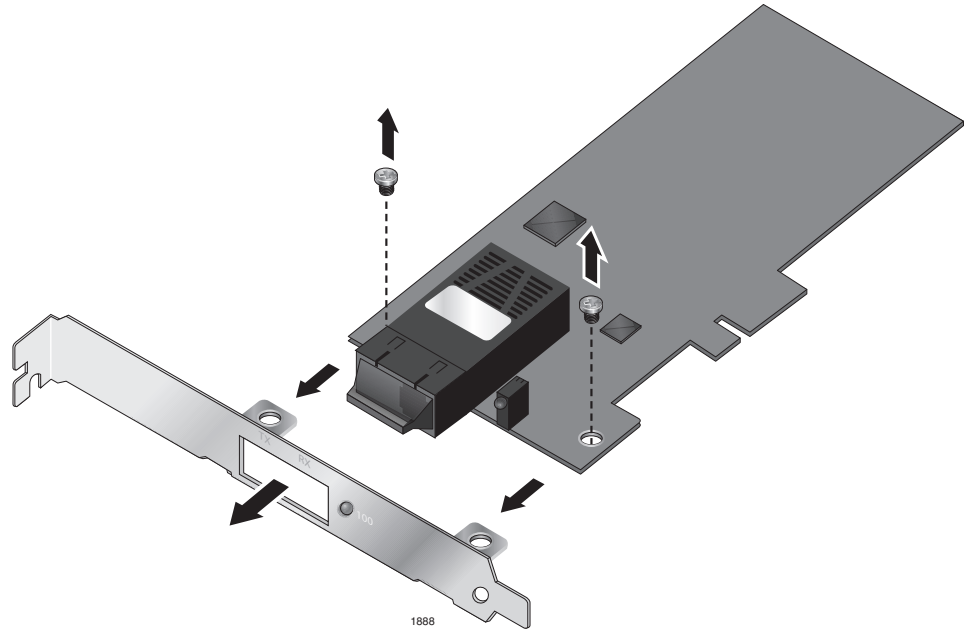

Figure 7. Removing the Standard Bracket
1. Remove the screws that attach the bracket to the adapter. See Figure 7.